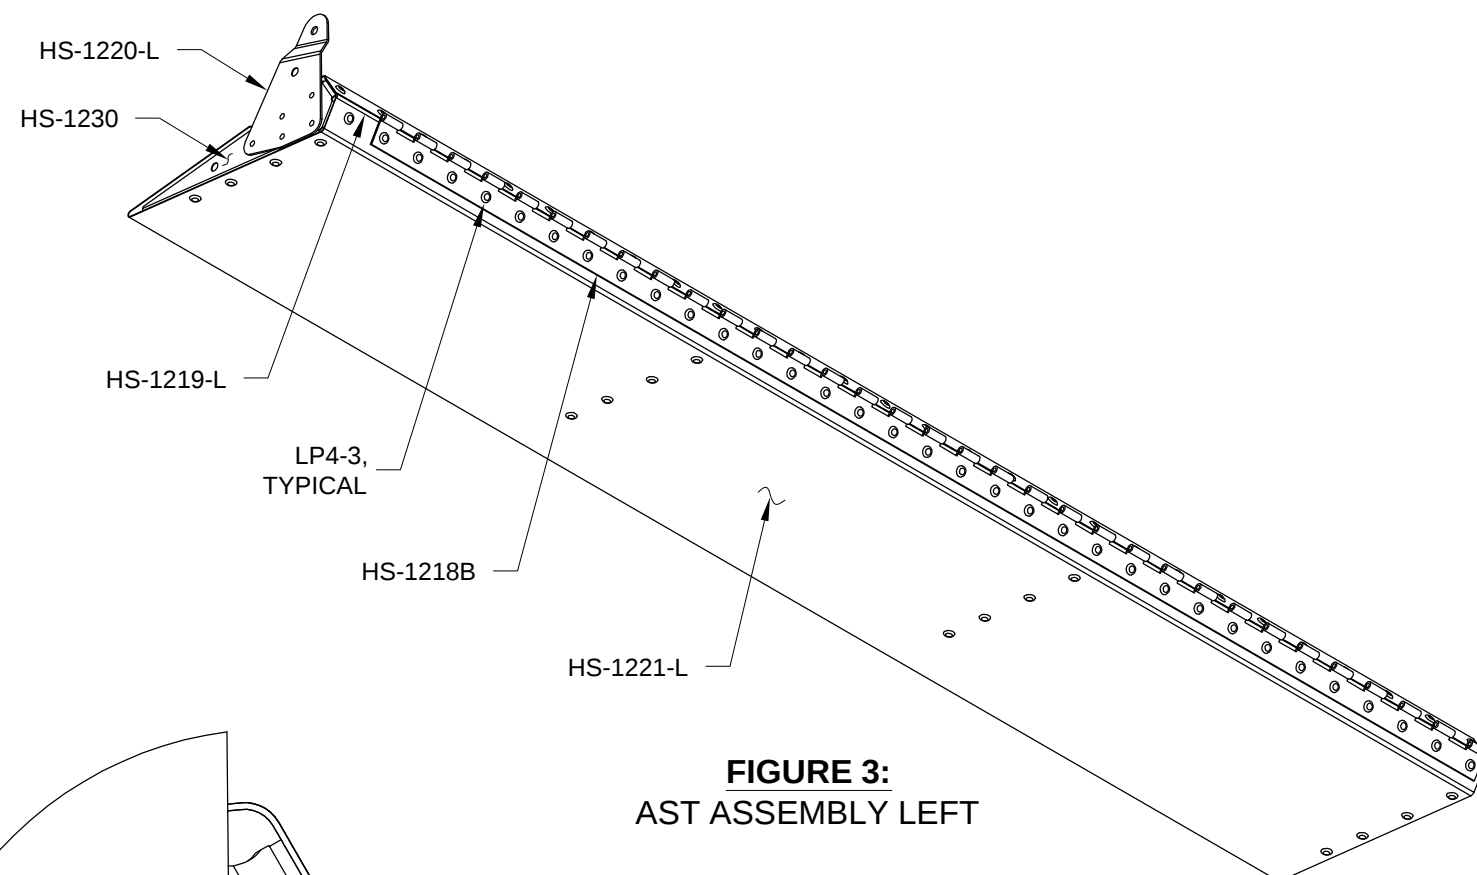

FIGURE 3:
Step 2: Install the AST Hinge with eyelets outward, as shown in Figure 2. Rivet the HS-1218B AST Hinge to the HS-1221-L AST Skin, the HS-1219-L AST Spar and HS-1230 Inbd Rib per call-outs in Figure 3. Begin at the hole farthest from the HS-1220-L AST Horn.